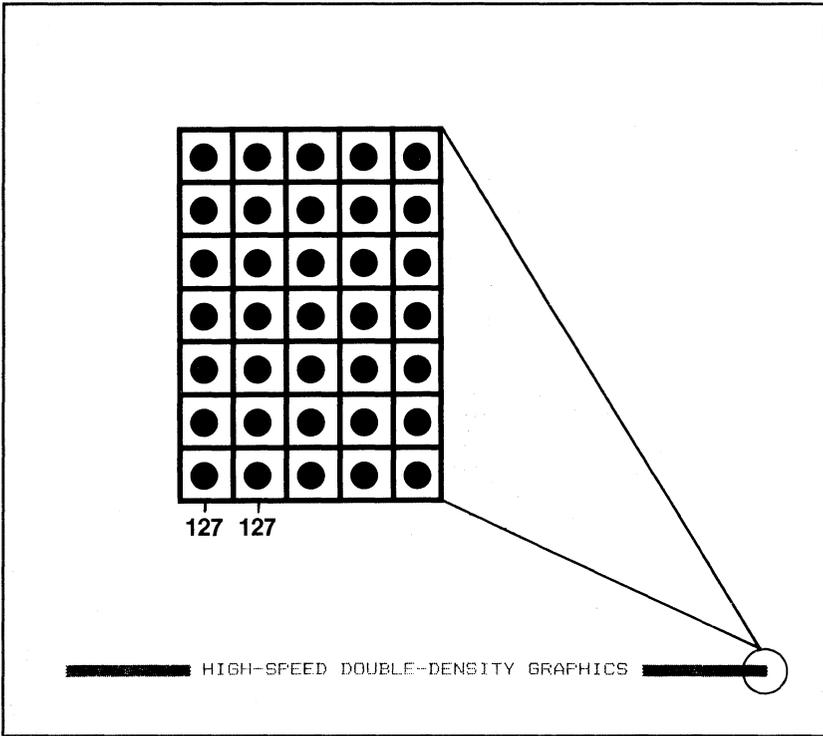

Figure 13-2. No overlapping dots.
As Figure 13-2 shows, the dots from the CHR\$(42) are not printed at all. The print head is simply moving too fast to retract the pins and then instantly fire them again.